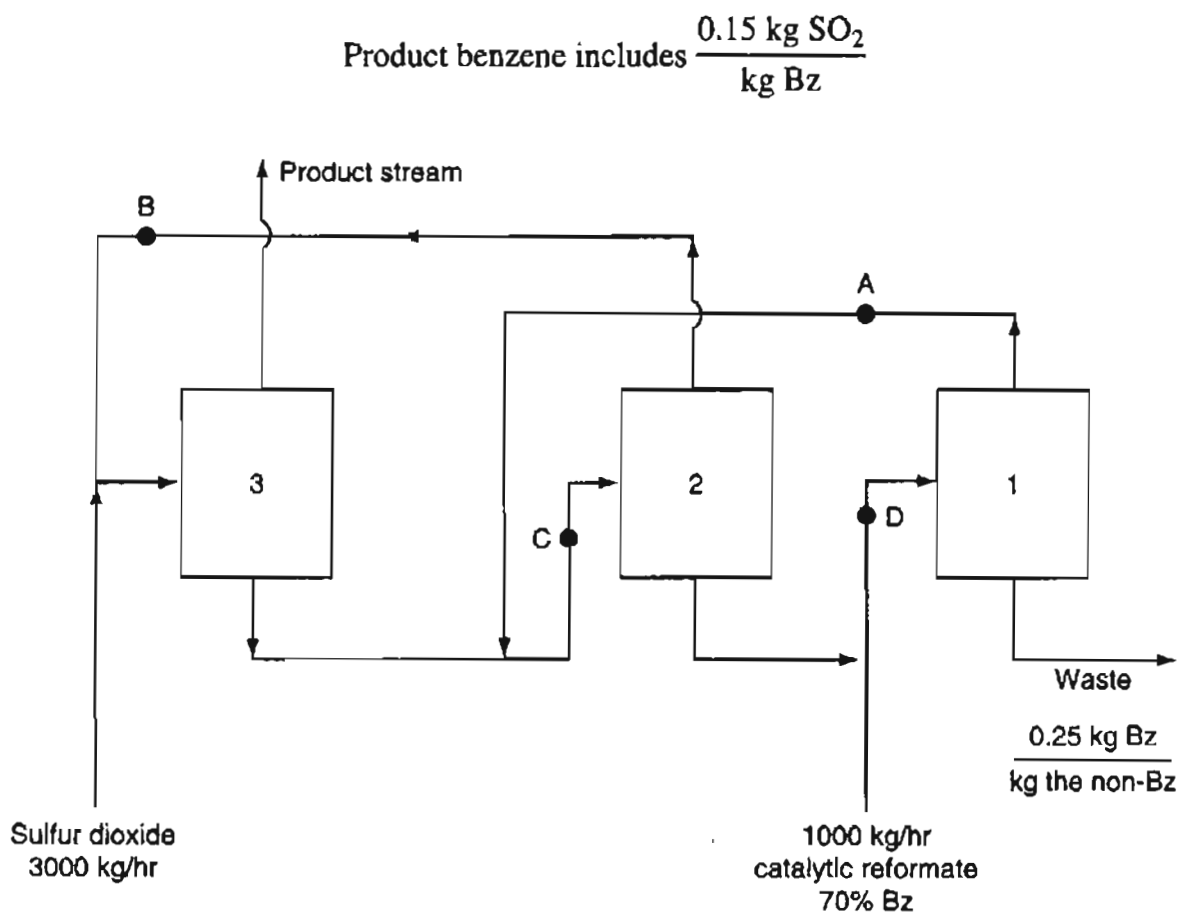

Figure P12.13
*****12.13** Benzene, toluene and other aromatic compounds can be recovered by solvent extraction with sulfur dioxide. As an example, a catalytic reformat stream containing 70% by weight benzene and 30% non-benzene material is passed through the counter-current extractive recovery scheme shown in the diagram in Figure P12.13. One thousand kg of the reformat stream and 3000 kg of sulfur dioxide are fed to the system per hour. The benzene product stream contains 0.15 kg of sulfur dioxide per kg of benzene. The waste stream contains all the initially charged non-benzene material as well as 0.25 kg of benzene per kg of the non-benzene material. The remaining component in the waste stream is the sulfur dioxide.